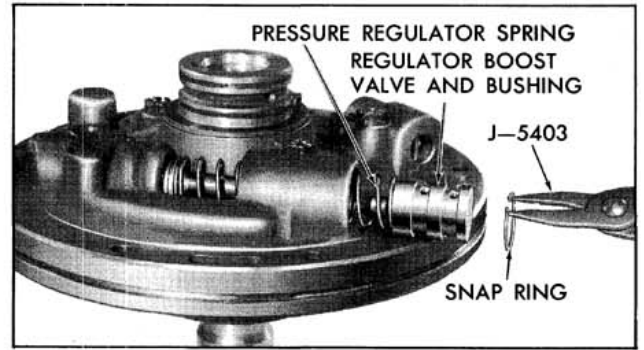

Fig. 6-116 Installing Snap Ring
5. Install the boost valve into the bushing, stem end out, and install both parts into the pump cover by compressing the bushing against the spring. Insert a small screwdriver between a spring coil and the bore of the boost valve to keep the spring compressed, so the retaining ring can be installed. (Fig. 6-116)